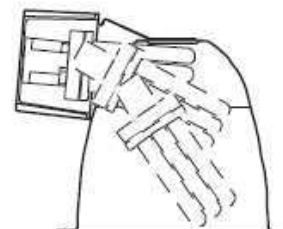

Fig. 8
D. LAMPING (FIG. 8)
Line up Lamp Pins with **Socket**, tilt lamp base to engage, then bring lamp to horizontal position and push into **Socket** (FIG. 8). To relamp, CAREFULLY PULL STRAIGHT OUT OF SOCKET WITH ONE FINGER PLACED ON THE TOP OF THE LAMP.
C. LAMPING (Fig. 8)
Line up **Lamp Pins** with **Socket**, tilt lamp base to engage, then bring lamp to horizontal position and push into **Socket** (FIG. 8). To relamp, **CAREFULLY PULL STRAIGHT OUT OF SOCKET WITH ONE FINGER PLACED ON THE TOP OF THE LAMP.**